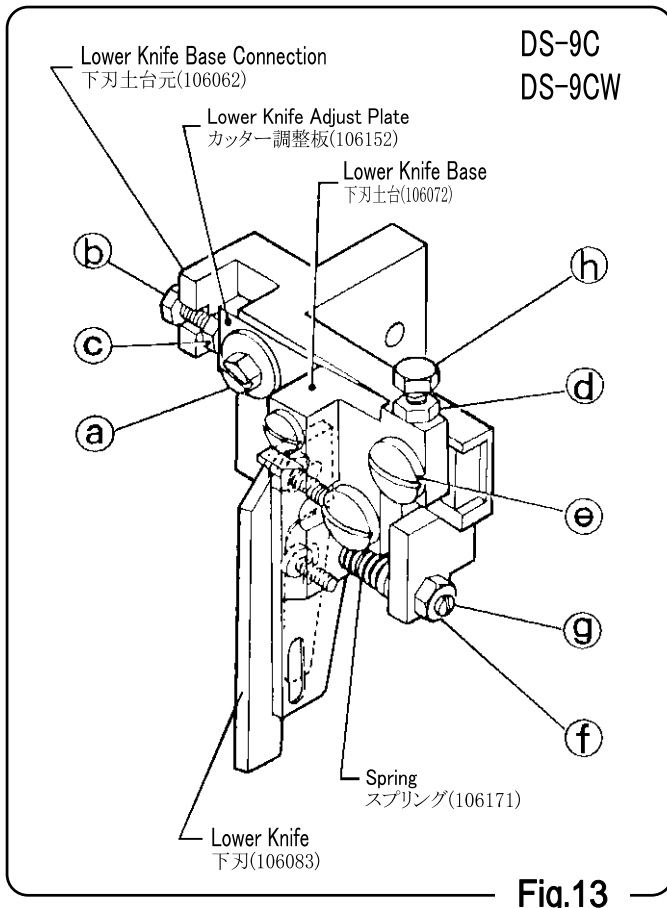

Fig.13
- To occlude the upper and lower blades, manually move the upper blade. To do so, put off air source. Here, prior to lowering the upper blade, loosen the screws a, b and h and the nuts C and d shown in (Fig.13).
- 手で上刃を動かして、上刃と下刃を噛み合わせます。上刃を下げる時(Fig.13)ネジ a, b, h ナット C, d は緩めてください。
- c) After the adjustment by steps a and b, cut a crepe tape or thread for test. If the front end of the cutter cuts but the rear end does not, there is a gap on the rear side. In this case, loosen the nut d and loosen the screw h by 1/8 turn, and cut the thread again for test. If it still does not cut, loosen the screw by another 1/8 turn and repeat this adjustment and test cut until the thread can be cut, and then retighten the nut d. If the rear end of cutter cuts but the front end does not cut, the adjustment by step a is insufficient. Then, make re-adjustment of the rear side so that the gap between both the blades becomes 0.1 to 0.2mm. Here, adjust the upper and lower blades so that they are in contact with each other on the front side. If the lower blade tends to turn away without cutting, loosen the nut f and increase the pressure of the spring by turning the screw g clockwise. (Fig.13)
- 後ろ側が切れて先端側が切れない場合は、a の調整が不良です。もう一度、上刃と下刃の後ろ側スキマが 0.1～0.2mm になるようにネジ b で調整します。また切断時に、下刃がにげるようでしたら、ナット f を緩めてネジ g を時計方向に回しスプリングの圧力を強くしてください。(Fig.13)